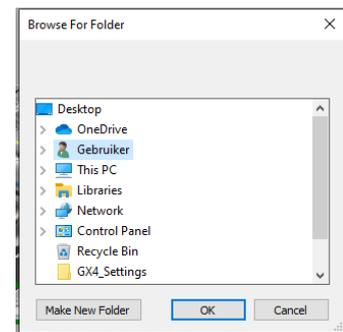

Figure 6-4 Export pop-up
3. A popup (Figure 6-4) appears where you can choose the export location